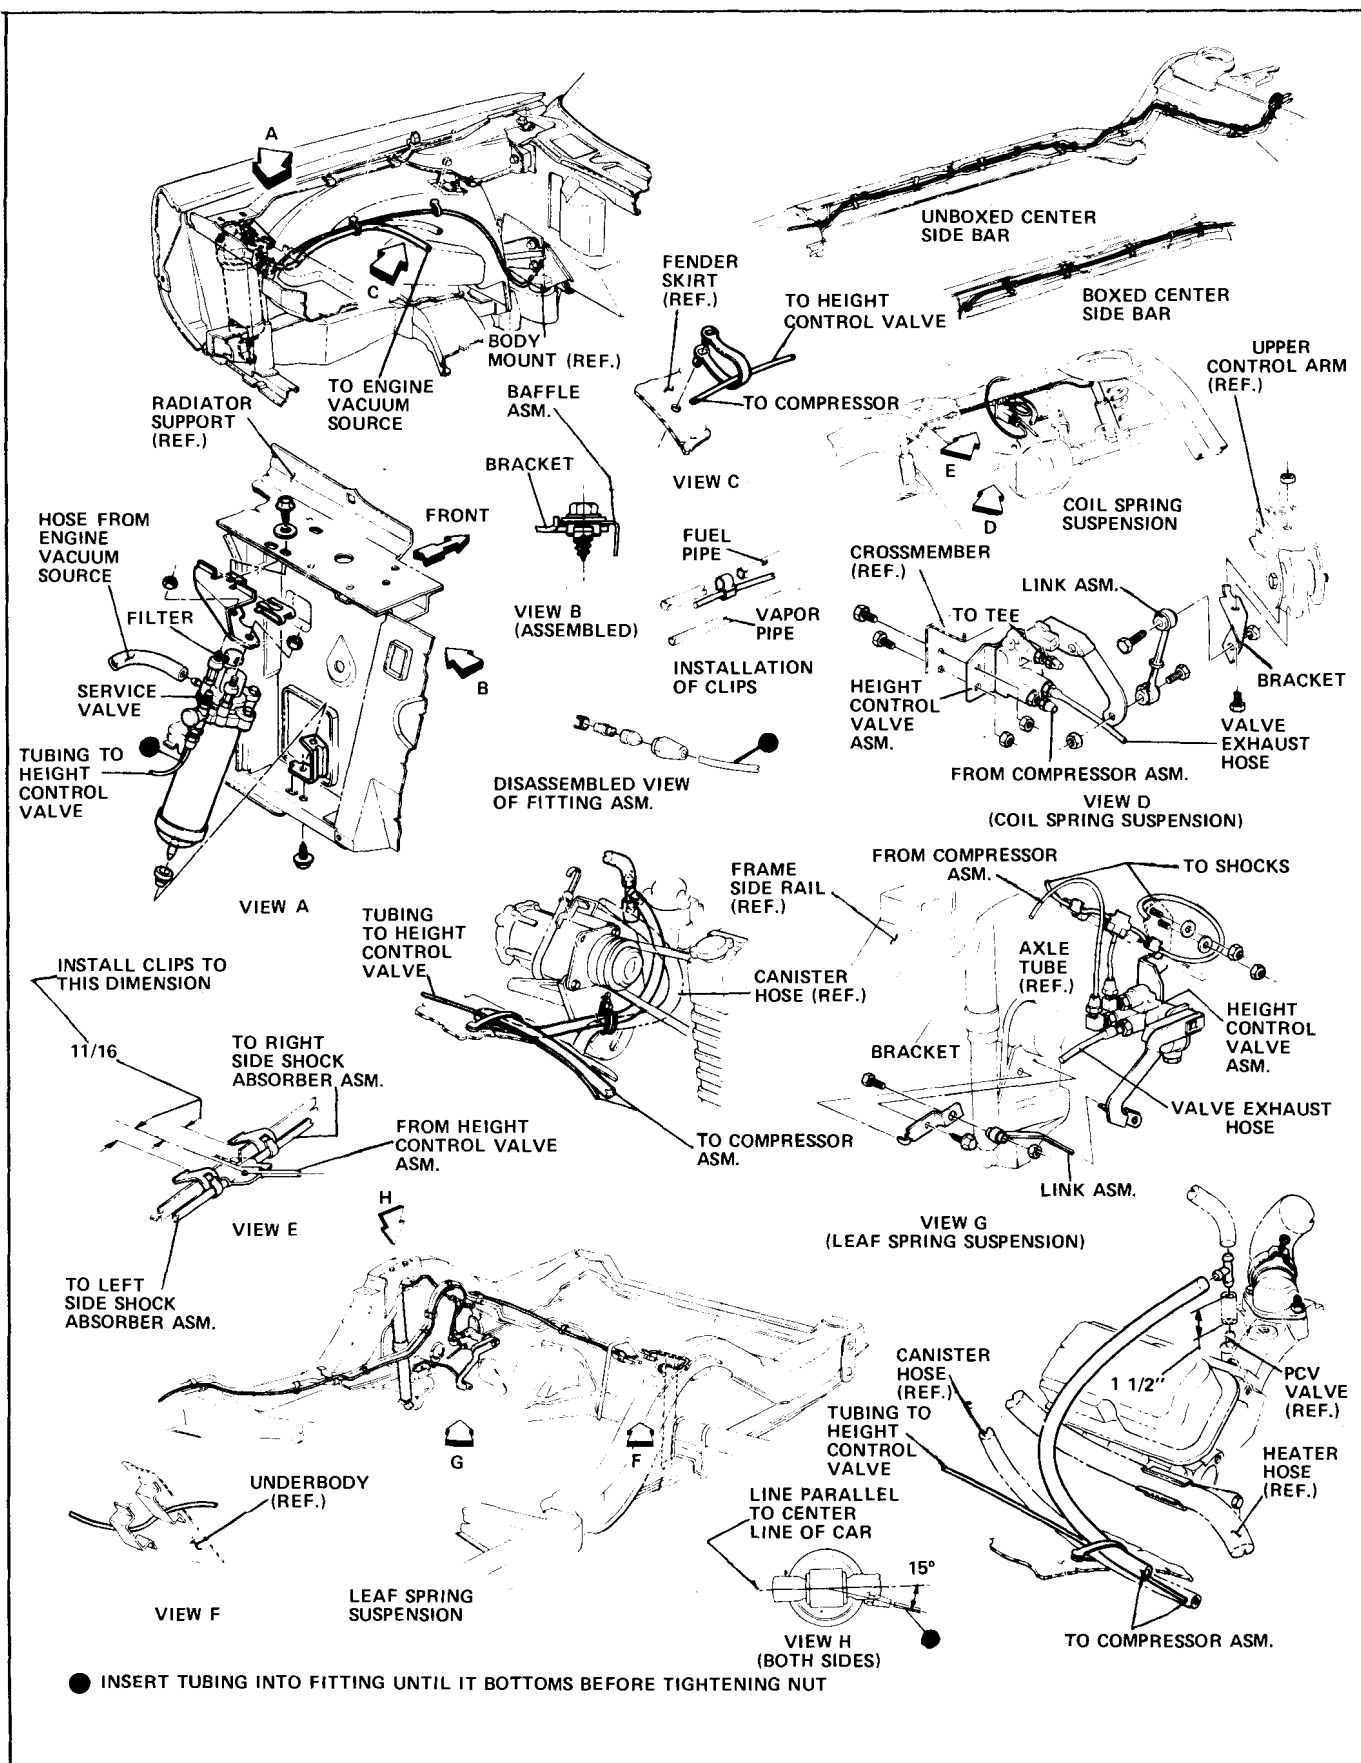

Fig. 4-37 Installation of Automatic Level Control System on B Series
While the lines are flexible for easy routing and handling, care should be taken not to kink them and to keep them from coming in contact with the exhaust system (Figs. 4-37 and 4-38).
CAUTION: Be sure system is deflated through service valve before separating air lines. When installing tubing at any fitting be careful not to kink line (Figs. 4-37 and 4-38).
1. Deflate system through service valve (Figs. 4-37 and 4-38).